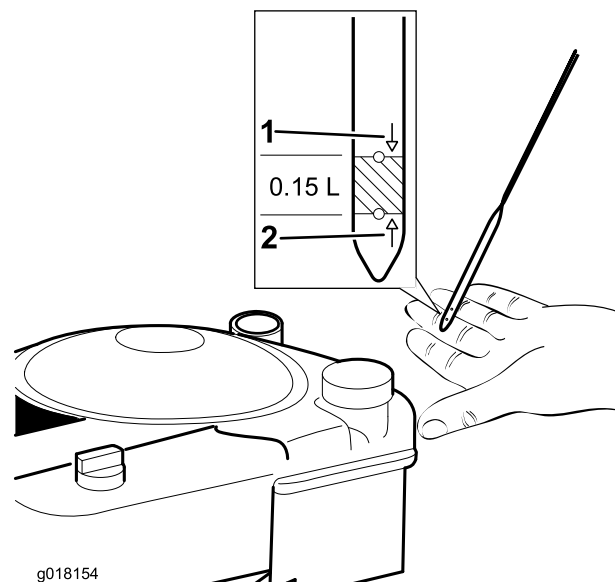

Figure 17
2. Remove the dipstick and wipe it with a clean cloth (Figure 17).
4. **Slowly** pour oil into the oil fill tube, wait 3 minutes, and check the engine oil level on the dipstick by wiping the dipstick clean and then inserting it into the tube (Figure 17).
5. Fill the engine with oil until the dipstick indicates that the engine oil level is correct as shown in Figure 17. If you overfill the engine with oil, remove the excess oil.